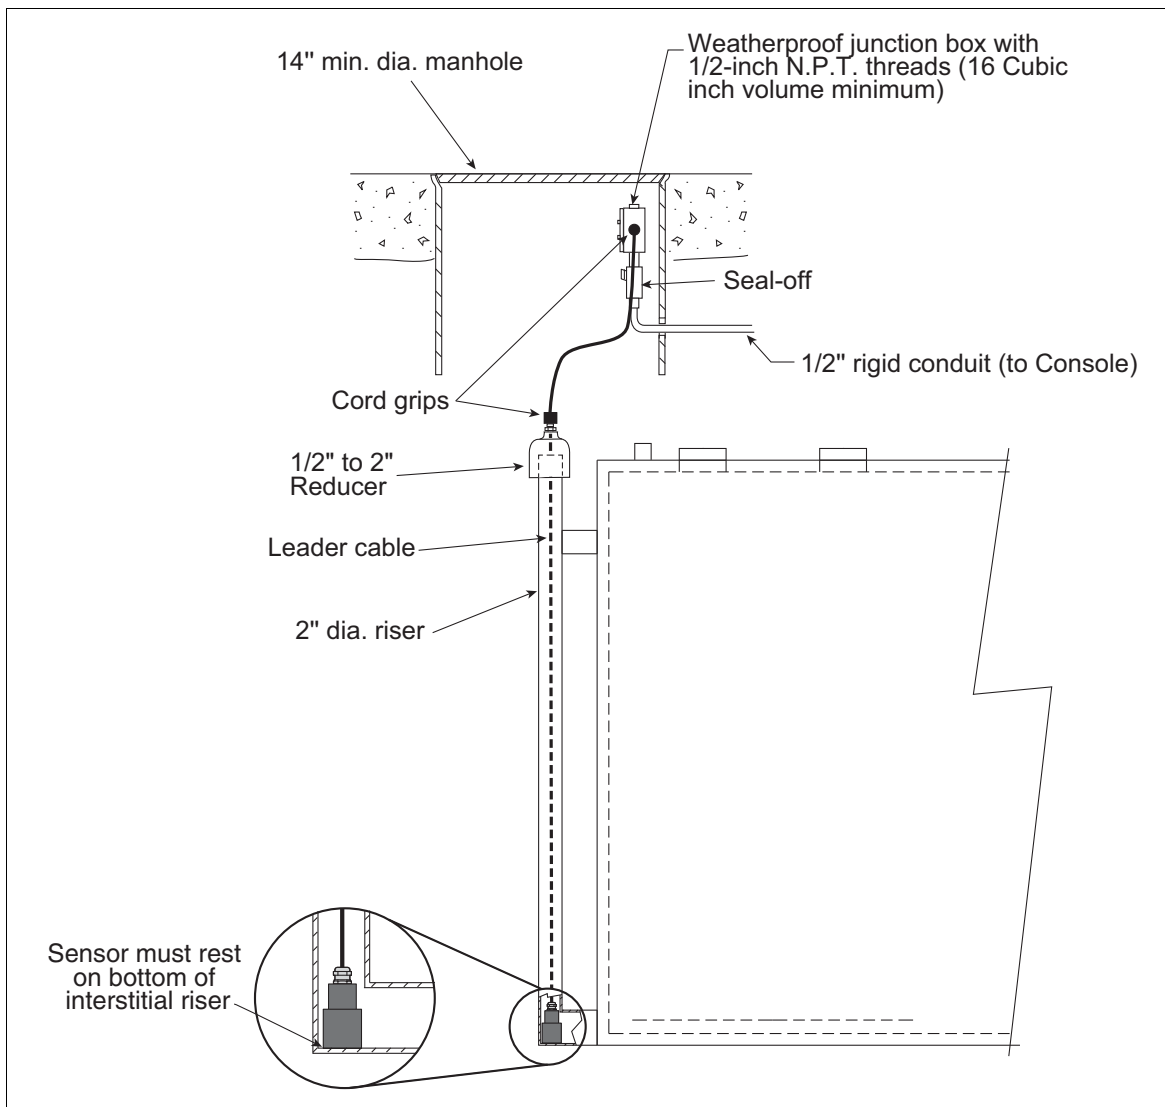

Figure 1. Example Sensor Installation - Steel Tank
3. To ensure proper operation of these sensors, they must rest on the bottom of the tank's interstitial riser. Lower the sensor into the riser until it rests on the bottom of the riser (see Figure 1).